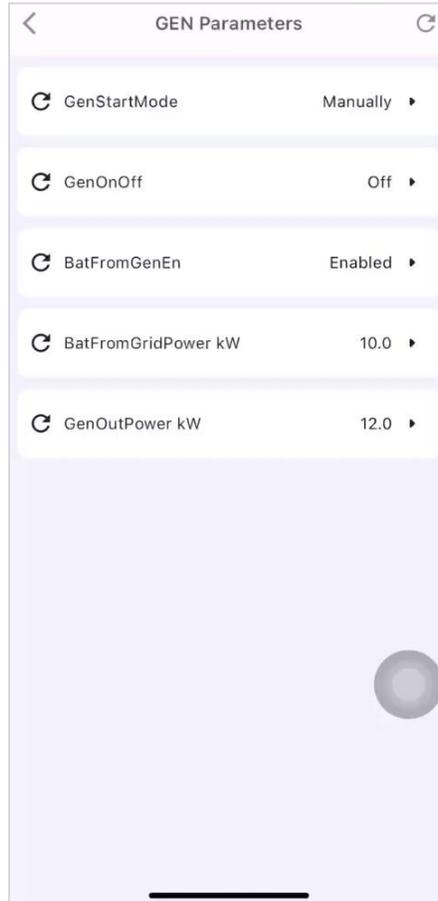

Figure 6-57 GEN Parameters
- If the generator is set to start up automatically, the generator will stop working automatically according to the preset SOC values (see Figure 6-57).